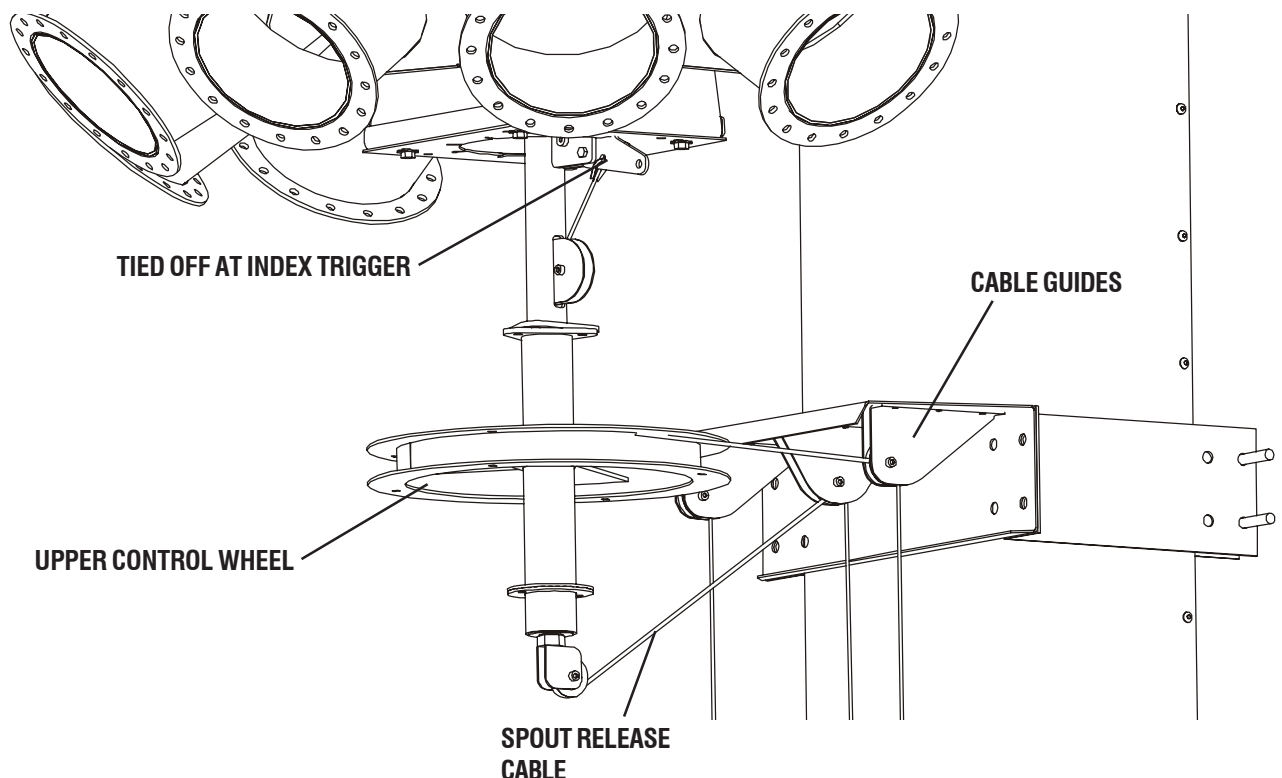
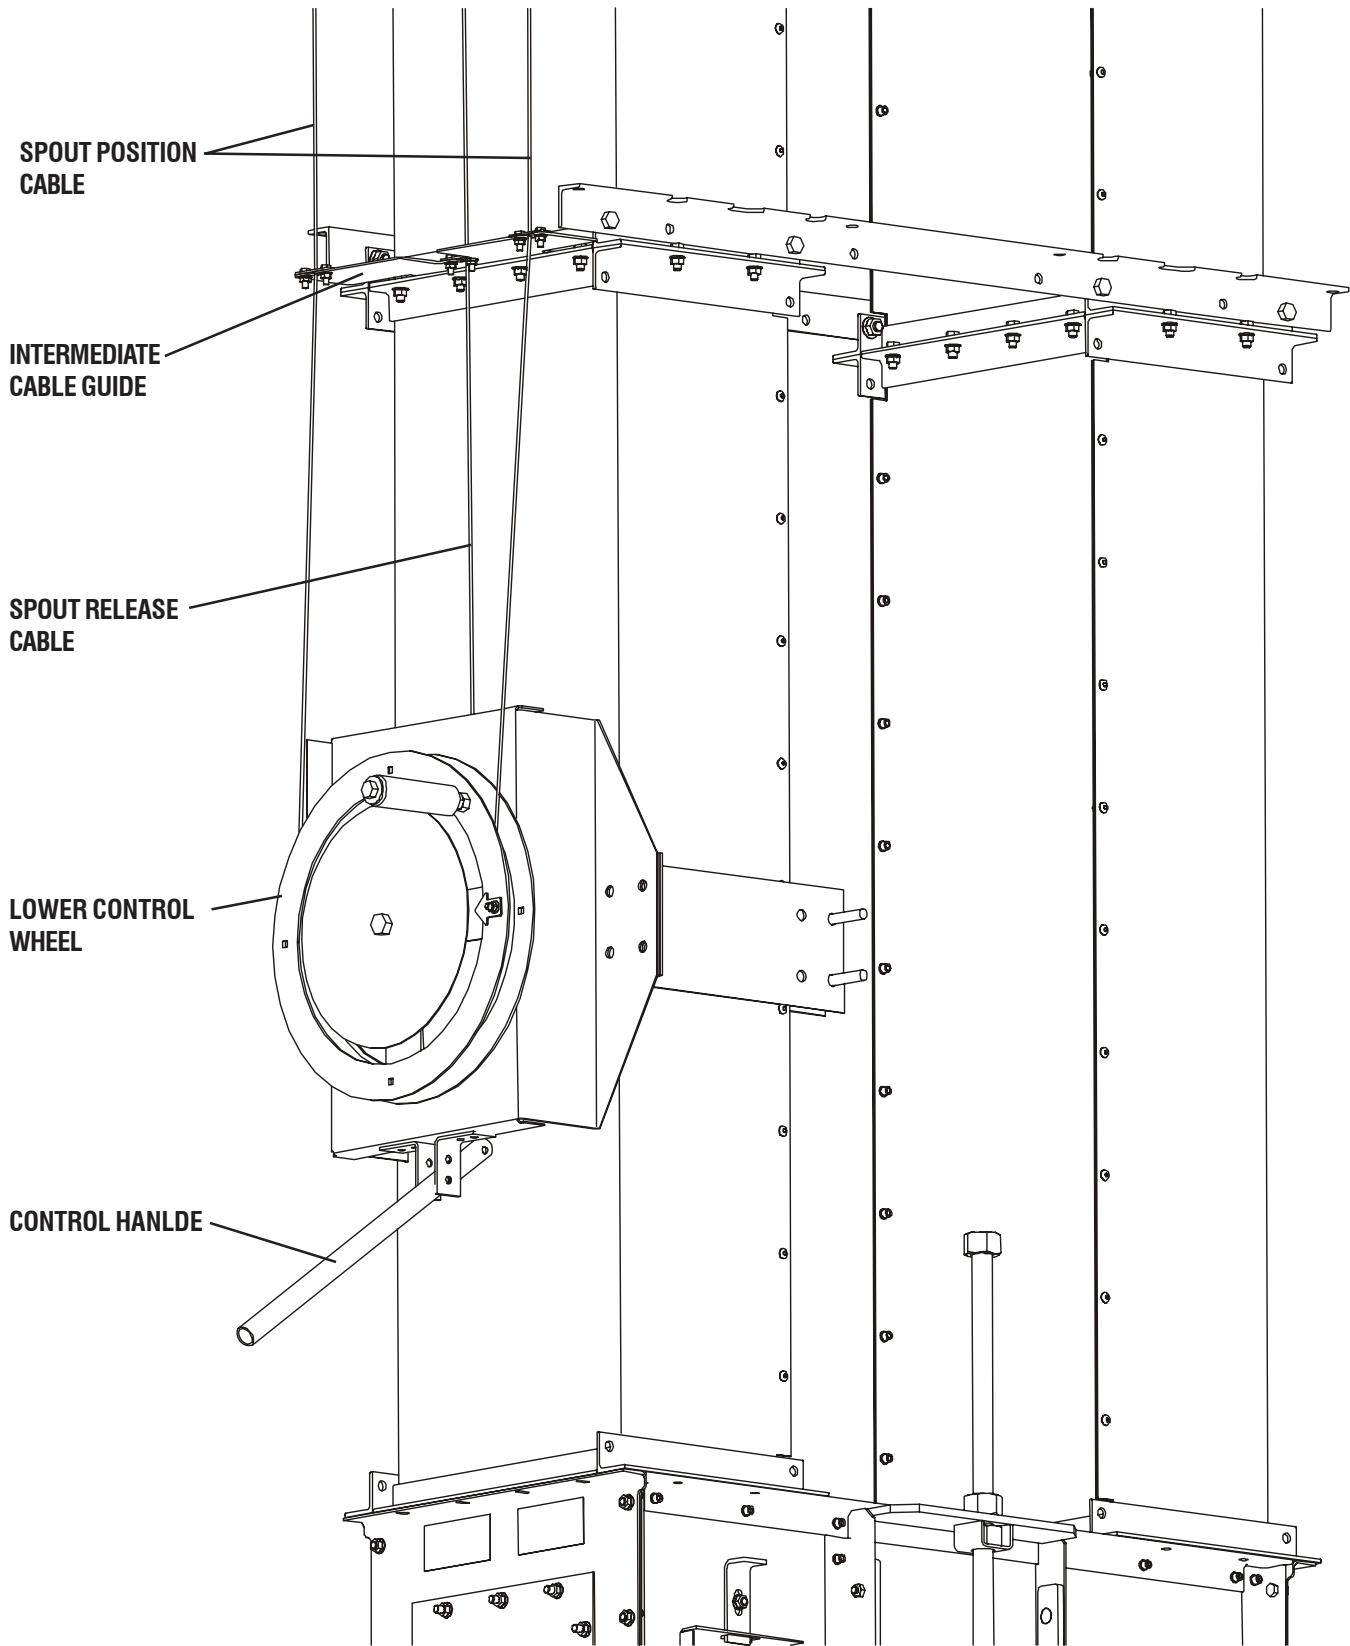
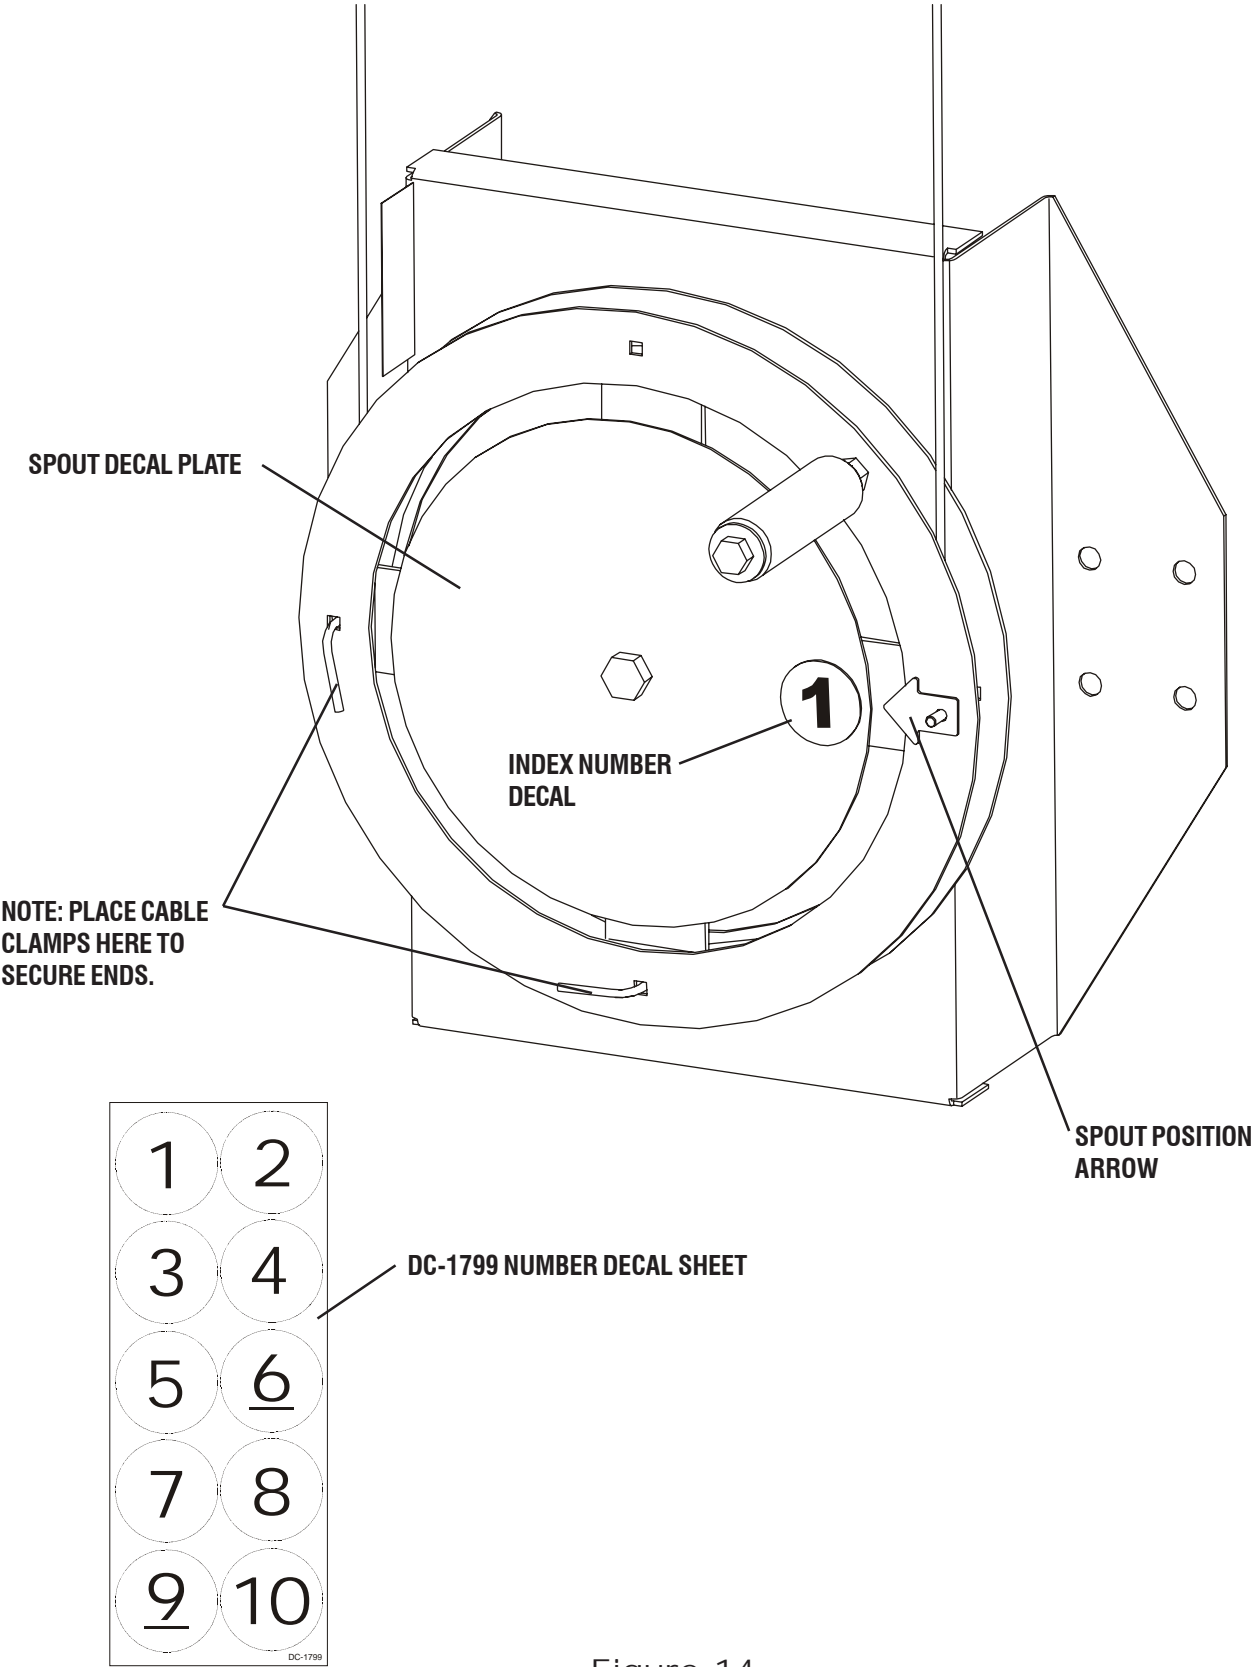

Figure 12
Figure 13
Figure 14
Run both ends of the cable through the cable guides (see Fig.12), continue down through the intermediate cable guides along trunking (see Fig.13), down to the lower cable wheel. Wrap each end of the cable 1 full wrap and then cable clamp both ends (see Fig.14).
(See Figure 13), up over the center pulley of the cable guide assembly, under the connector pulley assembly, and tie off at the index trigger (See Figure 12). Allow some extra cable to be able to tie off at both ends.
Step 2: Using the Index Number Decal (Decal part number DC-1799), peel off one of the numbers (numbered 1 through 10) and place on the Spout Decal Plate in front of the Spout Position Arrow (See Fig.14).